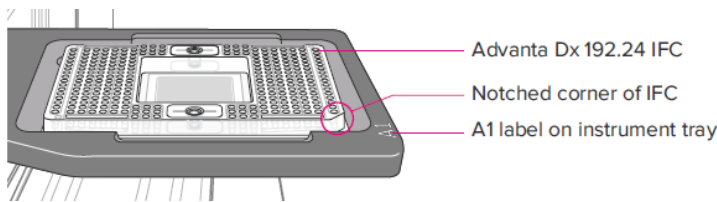

Figure 7. Loaded IFC on instrument tray
- 6 Place the loaded IFC on the instrument tray and align the notched A1 corner on the IFC with the A1 label on the tray (Figure 7). In the Data Collection software, click **Load**.